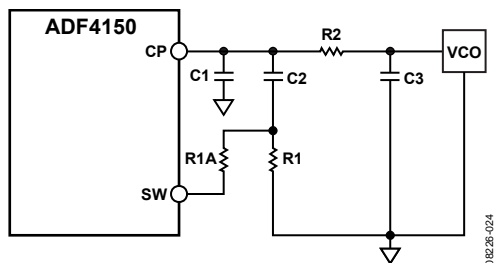

Figure 25. Fast Lock Loop Filter Topology—Topology 2
- An extra resistor (R1A) is connected directly from SW, as shown in Figure 25. The extra resistor is calculated such that the parallel combination of an extra resistor and the damping resistor (R1) is reduced to $1/4$ of the original value of R1 (see Figure 25).